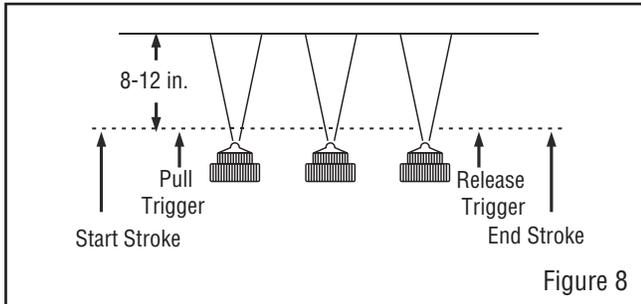

Figure 8
- Pull the trigger (E) slowly. Start the gun moving at the beginning of the stroke before squeezing the trigger (E) and release the trigger before stopping gun movement at the end of stroke. This procedure will feather/blend each stroke with the next without showing overlap or unevenness. (See Figure 8)